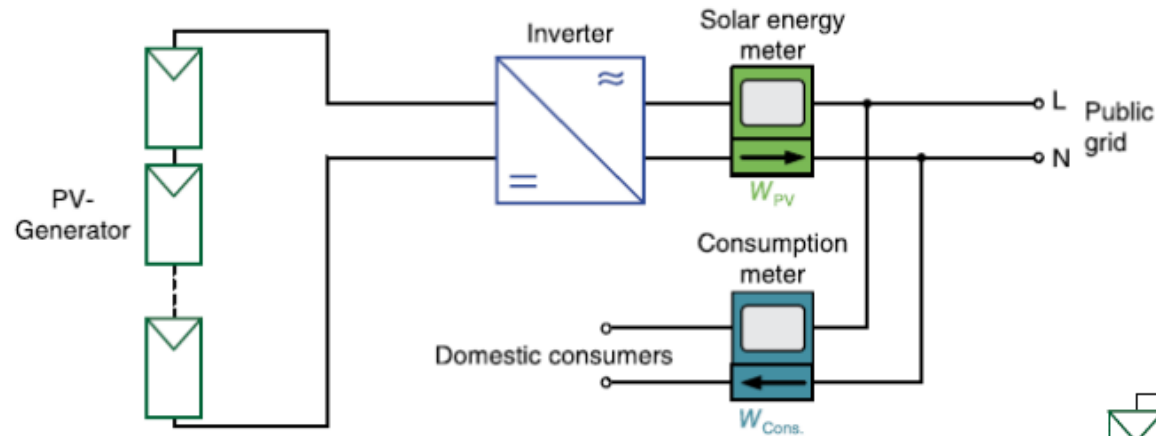

Fig. 49. Example of PV system with uni-directional power meter. Source: *Photovoltaics: Fundamentals, Technology and Practice* [Konrad Mertens].
- In the first case, illustrated in Fig. 49, a power meter is specifically used to measure the energy produced, while a second device is employed to estimate the energy consumed in the PV installation